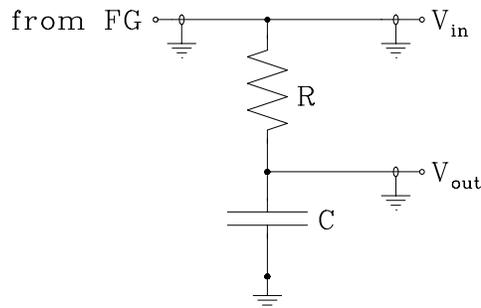

Figure 4.1: Typical RC low-pass filter
The circuit in Figure 4.1 can be thought of as a frequency filter with centre frequency
- On your breadboarding workstation, assemble the circuit of Figure 4.1. Use  $C = 0.01 \mu\text{F}$  and  $R = 10000 \Omega$ .
- ⓘ Note that when coaxial cables are used to make BNC connections between instruments and the workstation, the ground connections, shown by the ground symbols at the  $V_{\text{in}}$ ,  $V_{\text{out}}$  and FG nodes in Figure 4.1, are automatically made to GND on the breadboard. You do not need to duplicate these connections.